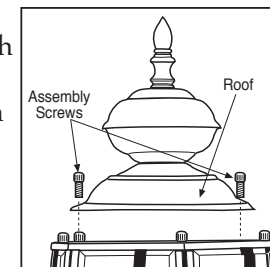

Figure 1
- For two screw and multiple screw assembly roofs, remove assembly screws on roof and insert bulb(s). Reattach roof (see figure 1 and 2).